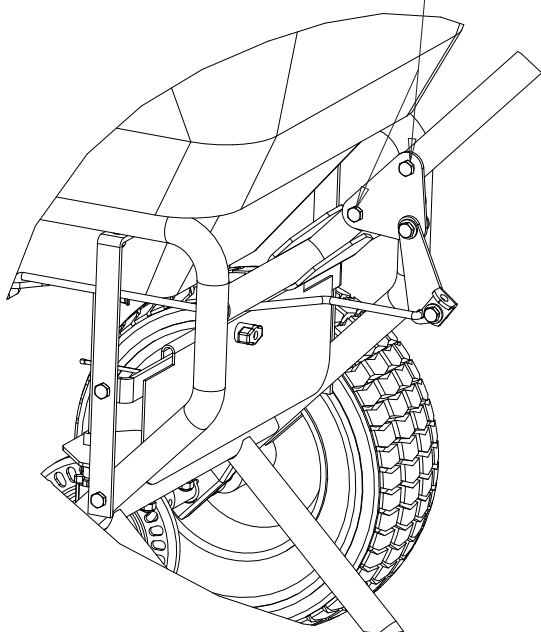

Figure 6
- E.** Attach the Linkage Plate Assembly and Handle to the Frame using two M6x40 bolts as shown. Figure 6 shows the lower linkage assembled (for reference).